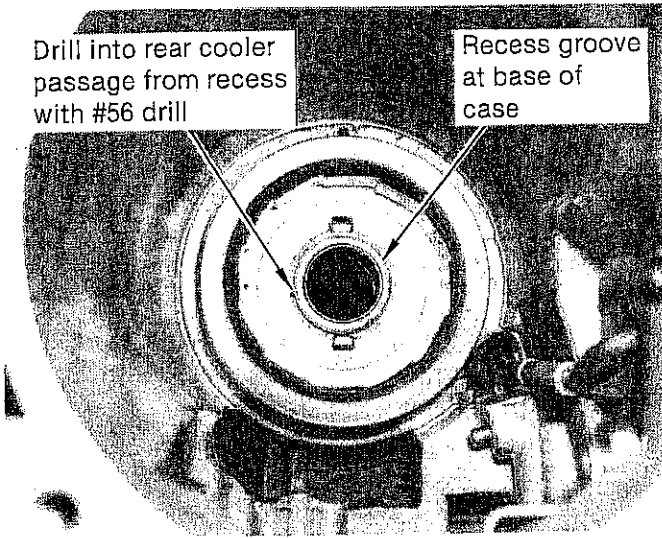

FIGURE 50
STEP 1. Drill a hole in the area shown in Figure 50 with